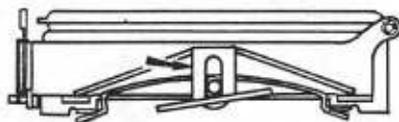

Fig. 33
- 27-4 Install the Adjusting frame retainer spring left (M33) to 0-M4 so that the heigher side of M33 and M34 as indicated by the arrow point the Body mount. Refer to Fig. 33.